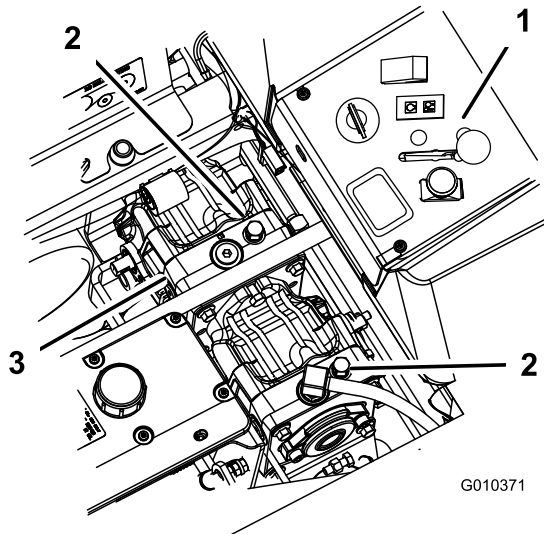

Figure 37
3. Rotate the bypass valves counterclockwise 1 turn to push (Figure 37).
Rotate the bypass valves clockwise 1 turn to operate machine (Figure 37).